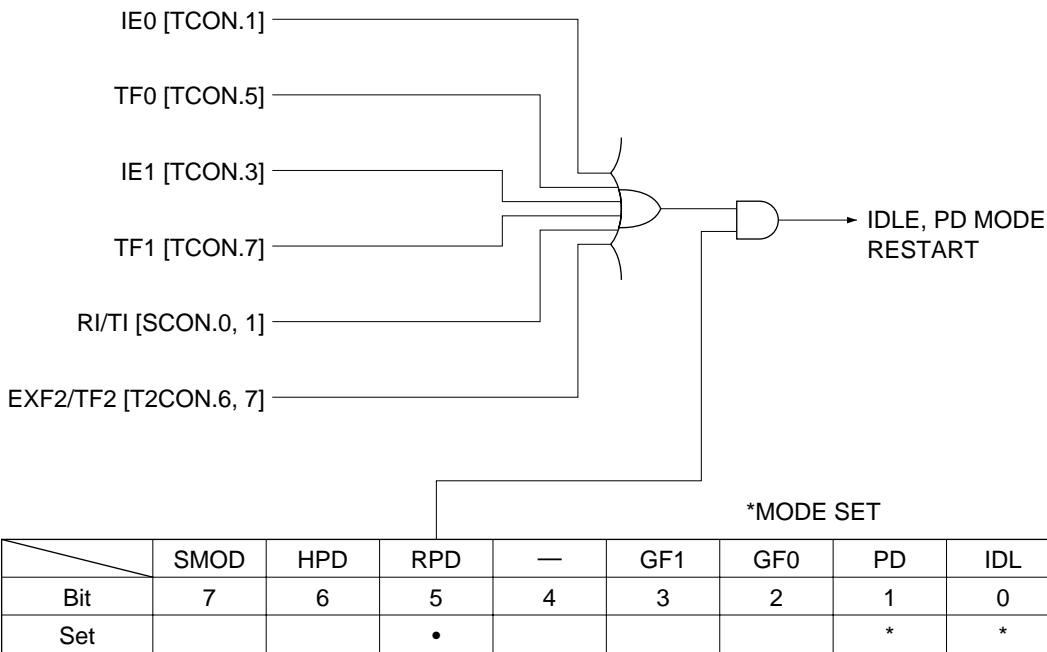

Figure 4-80 Equivalent circuit for power down mode cancellation and restart by interrupt source signal
To cancel idle mode (IDLE) or soft power down mode (PD) by interrupt request signal and then resume execution from the next address after the stop address, “1” is set in bit 5 (RPD) of the power control register. When “1” is set in this bit, the circuit connections shown in Figure 4-80 are made, and the CPU power down mode is cancelled when the interrupt flag has been set to “1”, even if the entire contents of the interrupt enable register (IE 0A8H) have been put into interrupt disable status.